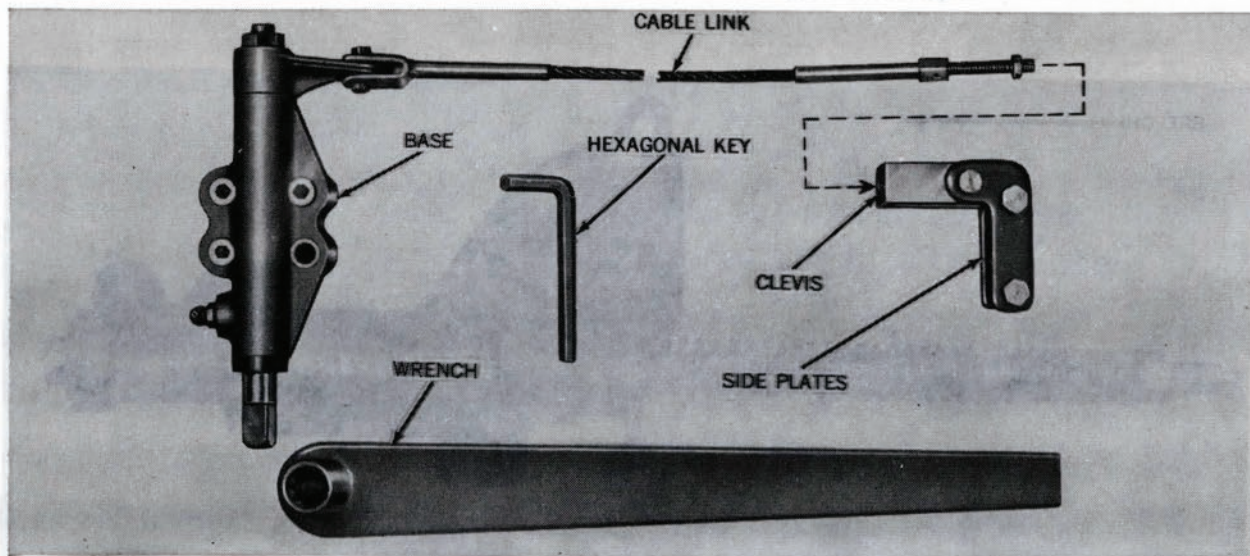

Figure 75—Stop Bolt Hand Retraction Unit and Wrenches.
**Hand Retraction.** The manual retraction mechanism is used for hand retraction of the stop bolt and consists of the parts shown in figure 75. The base is attached to the handwheel (or crank) pedestal of the speed setting mechanism. The cable link connects the shaft in the base to the clevis and side plates which engage the stop rod, figure 76. The wrench fits over the squared extension of the shaft in the base. When the wrench is turned, the cable link is pulled breechward. This action is transmitted through the slide plates to the stop rod to lift the stop bolt. The stop bolt is fully raised by turning the wrench about 68°. Before the wrench can be fitted to the shaft extension, the speed setting handwheel or crank must be removed.